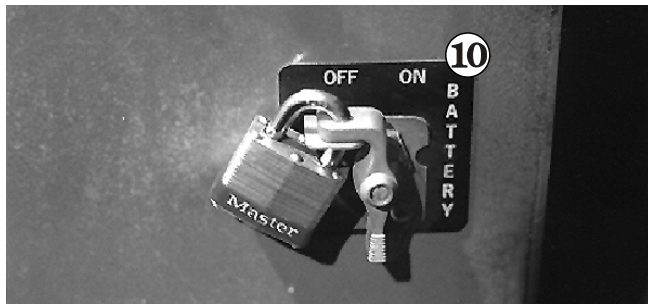

Figure 10.6
2. Set the **Battery** switch ⑩ (see Figure 10.6) to OFF and padlock it.